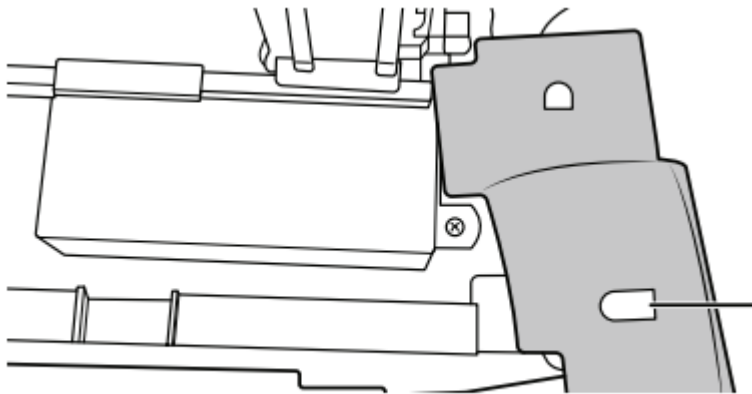

Figure: 2
■ Attachment 2: Use the other slit on the side shield and attach it to the hook on the front of the dishwasher. (See figure 2)